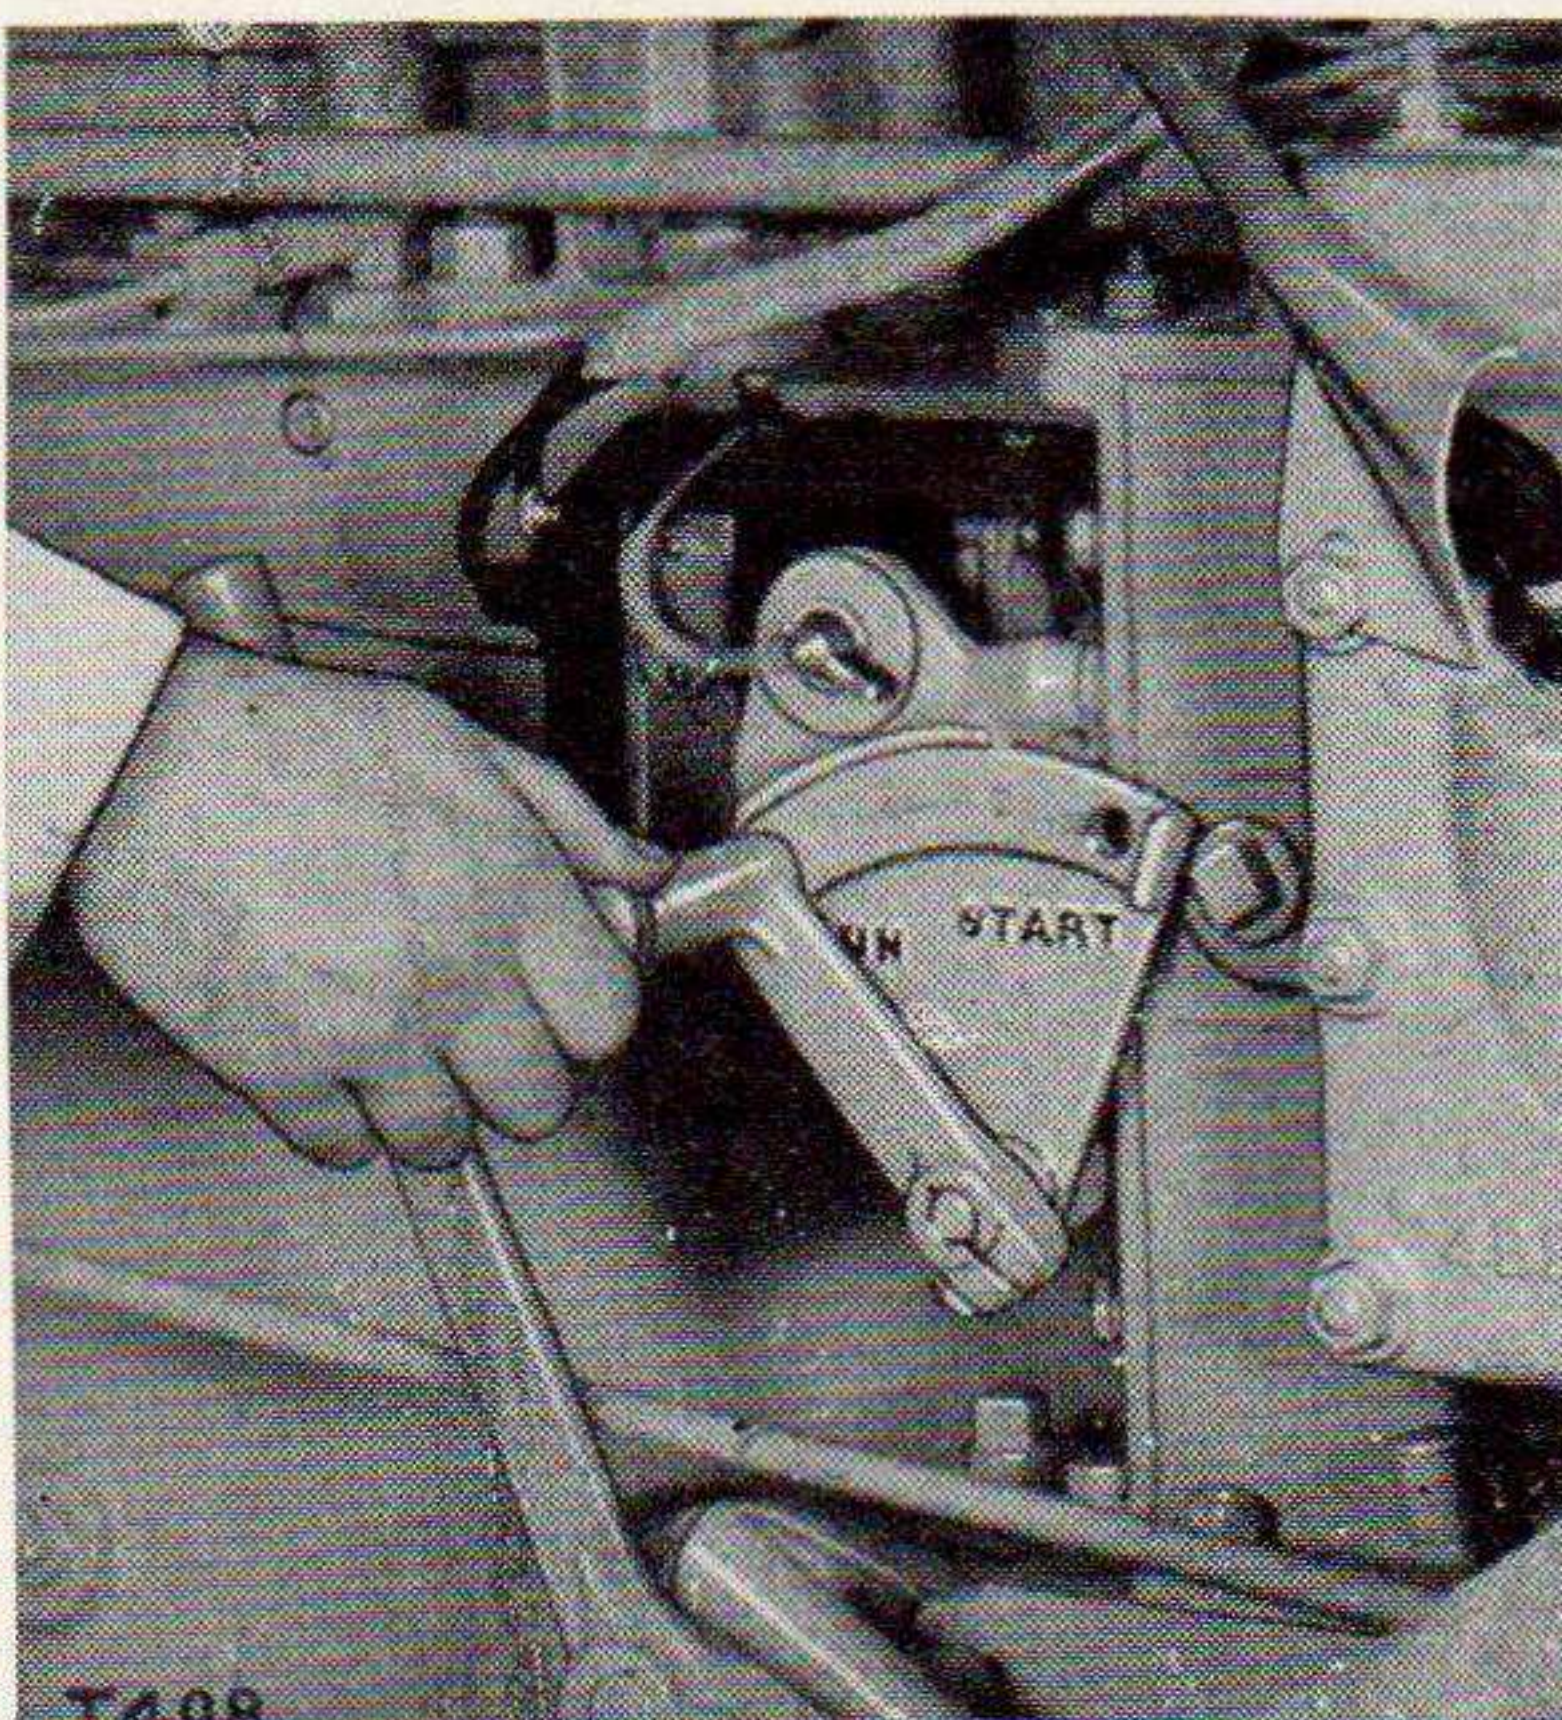

Figure 23. Compression release in 'run' position.
- (4) Move the compression release lever to the "RUN" position as soon as the starting engine will turn the Diesel engine at normal cranking speed. (See fig. 23.)
- (5) Allow the Diesel engine to warm up. When the starting engine is cranking the Diesel engine against compression (with the compression release in the "RUN" position) the heat of compression and the circulation of the starting engine exhaust gases around the Diesel engine inlet manifold warms the cylinders, pistons and combustion chambers to the temperature necessary for starting.